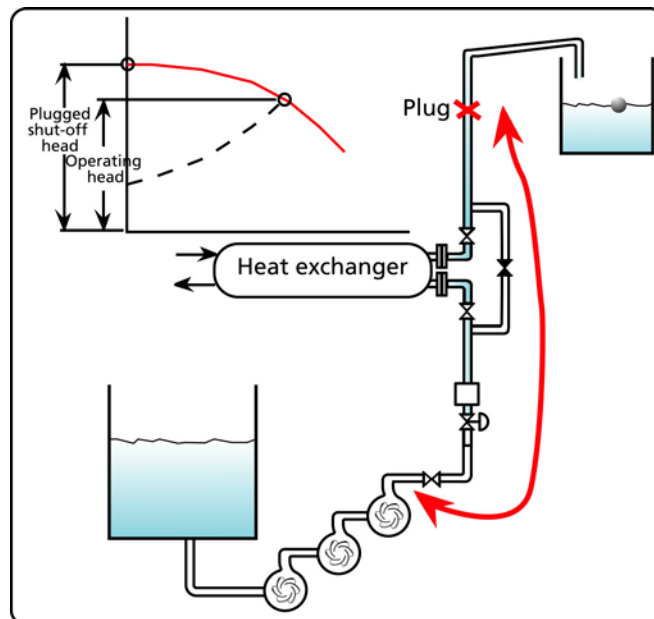

Figure 5 Danger of increased pressure due to a plug in a series pump system.
13. For series pump installations make sure that the pressure rating of the pumps is adequate. This is particularly critical in the case where the system could become plugged due to an obstruction. All the pumps will reach their shut-off head and the pressure produced will be cumulative (see Figure 5). The same applies for the pressure rating of the pipes and flanges.